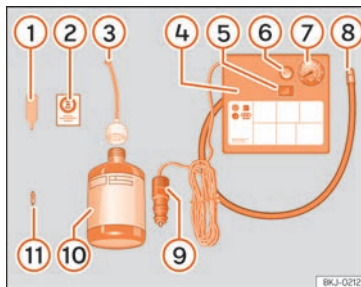

Fig. 97 Standard display: contents of the anti-puncture kit.
»» **Fig. 97:**
Screw the inflator tube »» Fig. 97 ⑤ again and check the pressure on the gauge ⑥.